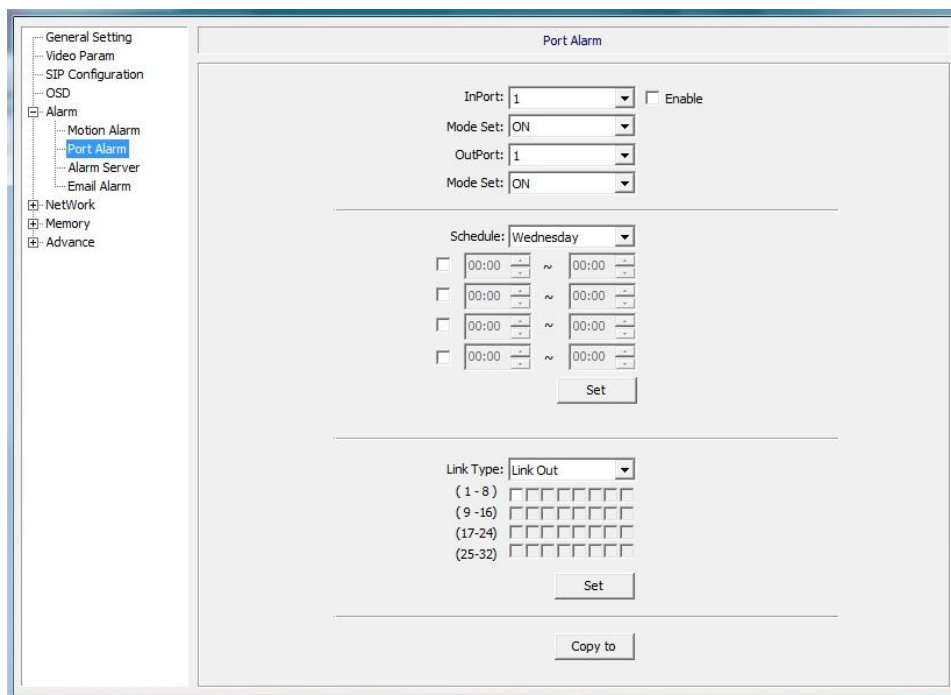

Fig. 1.16
**Port alarm (Figure 1.16) :**